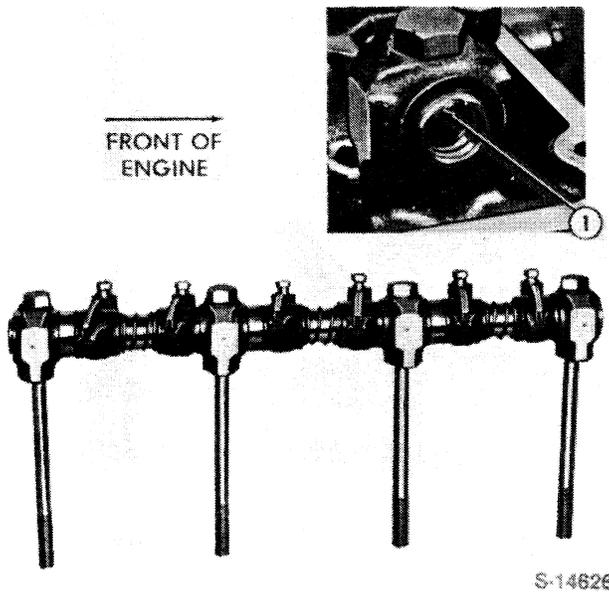

Figure 16
- Using a telescopic gauge and micrometer, measure the valve to guide clearance, Figure 16. If the clearance exceeds the specified limits, see "Specifications," Chapter 3. Ream the valve guide to fit the next oversize valve.
4. Coat all components with engine oil and position the notch on the front of the rocker shaft upwards to correctly locate the oil holes, Figure 16.